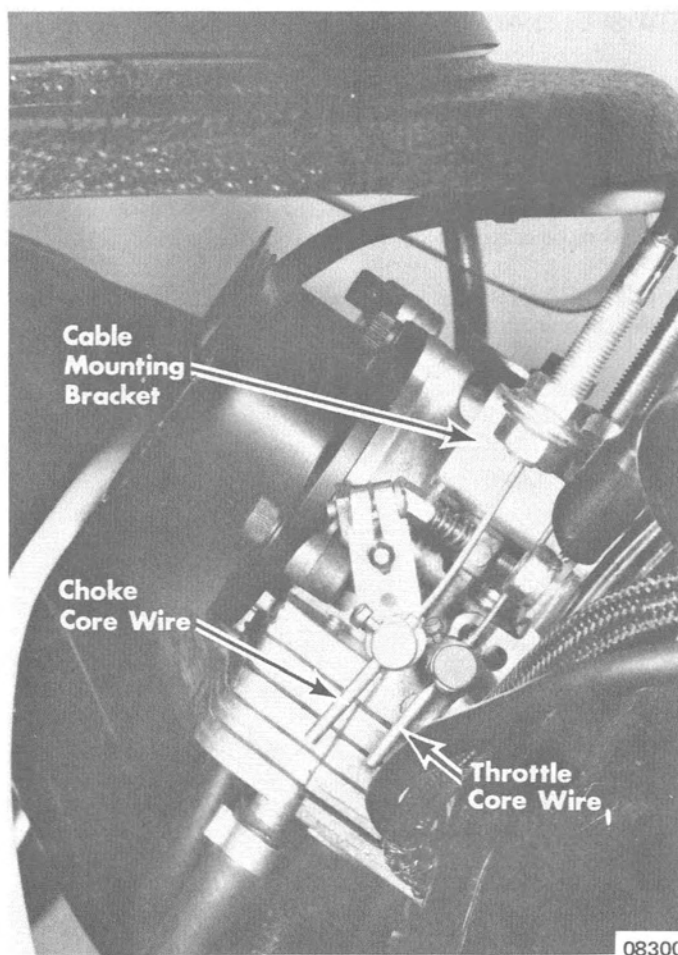

Figure 5. Mark II Carburetors
2. Disconnect throttle core wire (Figure 5) from carburetor linkage of carburetor to be removed.
3. If removing rewind side carburetor, disconnect choke core wire (Figure 5) from carburetor linkage.